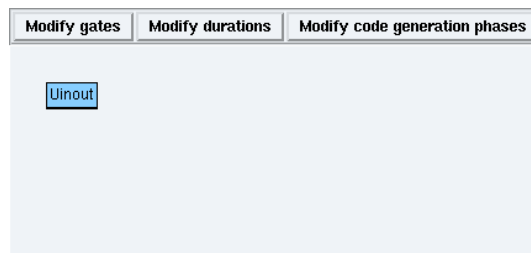

Figure 1.13: Operator definition window
- from the main window, choose **Architecture / Define Operator**. It opens a dialog window, type `Uinout` and click **OK**. It opens the operator definition window (cf. figure 1.13);